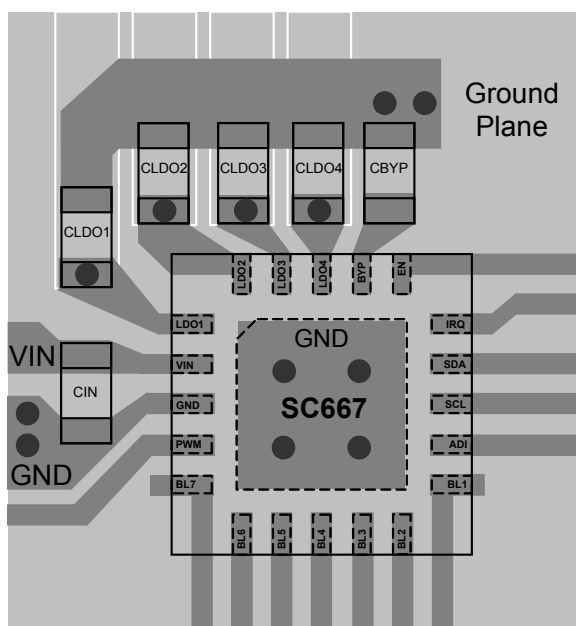

Figure 17 — Recommended PCB Layout
The layout diagram in Figure 17 illustrates a two-layer PCB layout for the SC667 and supporting components. Following fundamental layout rules is critical for achieving the performance specified in the Electrical Characteristics table. The following guidelines are recommended when developing a PCB layout:
- $C_{LDO1}$ ,  $C_{LDO2}$ ,  $C_{LDO3}$ ,  $C_{LDO4}$ , and  $C_{BYP}$  should be grounded together. Connect these capacitors to the ground plane at one point near the SC667 as shown in Figure 17.